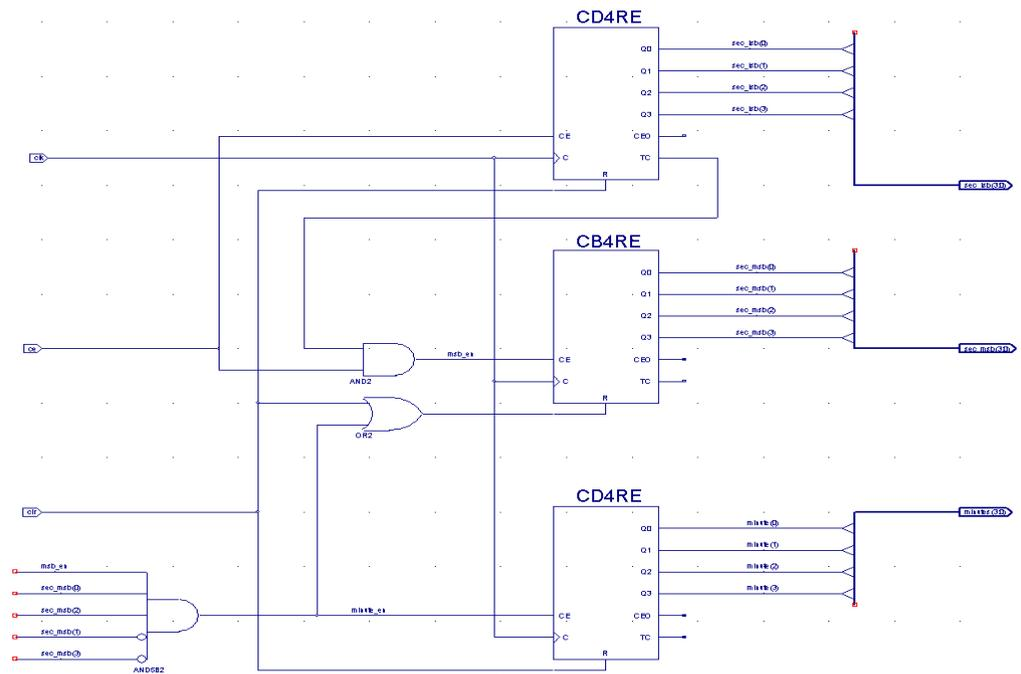

Figure 3-15: Completed `time_cnt` Schematic
9. Compare your *time_cnt* schematic with Figure 3-15 to ensure that all connections are made properly.
5. Click on the remaining three AND5b2 input nets of the so that the wires named `sec_msb(1)` and `sec_msb(3)` are attached to the inputs with inversion bubbles. Refer to Figure 3-15.